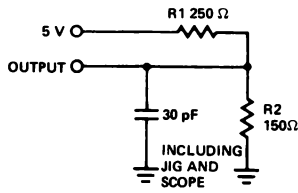

Figure 1a
9. t_{AA}, t_{ACS} and t_{AWE} are tested with C_L = 30 pF as in Figure 1a. Timing is referenced to 1.5V on the inputs and outputs.